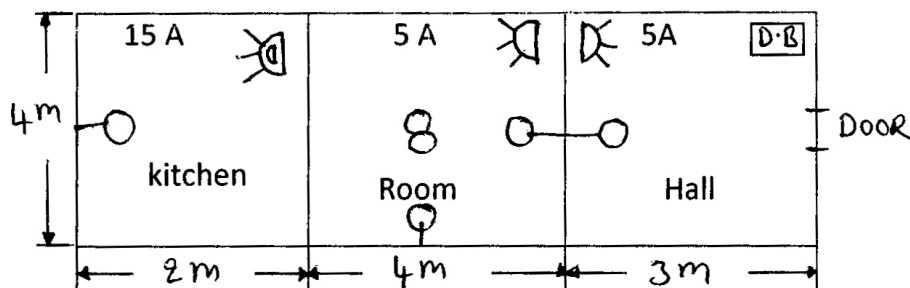

Fig. 1 : Plan of building
(2) Each question carries **ten** marks.
(3) Answers should be comprehensive and the criterion for valuation is the content but not the length of the answer.
12. The plan of residential building is shown in Fig. 1. It is to be provided with CTS system of wiring. Estimate the materials required. Consider wattage of lamps = 60 W, fan = 80 W, 5A socket = 100 W. Also draw the wiring diagram. Assume any missing data.